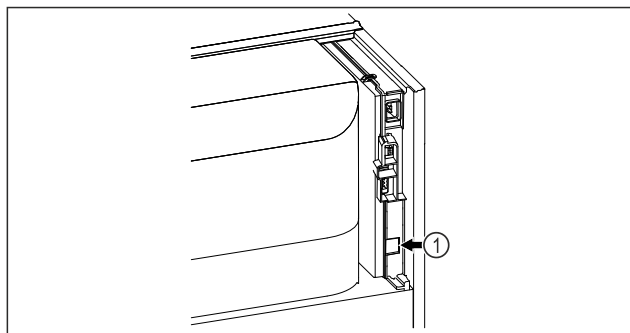

Fig. 90
- SmartModule Fig. 90 (1) is in use.